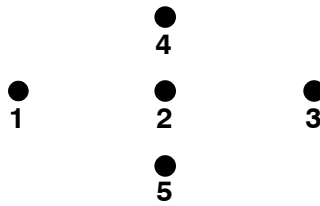
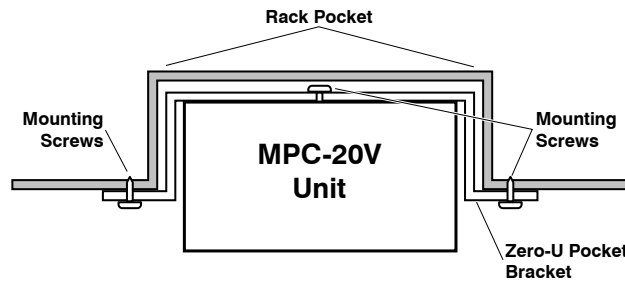

Figure 1: Mounting Holes; MPC-20V Back Panel
Figure 6: Zero-U Pocket Brackets (Cross Section; Nested in Pocket)
- c) **MPC-20V (Vertical) Units:** The "L" brackets can either be attached to the back or side of the unit, and the unit can also be installed to face the front, rear, or either side of the equipment rack. Each end of the MPC features seven screw holes for attaching the brackets, this allows you to mount the brackets on either side of the unit, and in one of two possible positions on the back. When mounting the brackets on the back of the unit, use screw holes 1 and 2 or 2 and 3 as shown in Figure 1. Use two screws (supplied with the bracket) to secure one bracket to the top of the MPC and the second bracket to the bottom of the MPC.
- b) Locate the screw holes for the Mounting Buttons on the MPC-20V back panel. There are two screw holes at the top of the back panel and two holes at the bottom. Note that the screw holes for the Mounting Buttons are not the same holes shown in Figure 1; the Mounting Button screw holes are located at the top of the unit, directly above the screw holes shown in Figure 1, and at the bottom, about three inches below the holes shown in Figure 1.
- b) Each end of the MPC features seven screw holes for attaching the brackets, this allows you to mount the brackets on either side of the unit, and in one of two possible positions on the back. When mounting the brackets on the back of the unit, use screw holes 1 and 2 or 2 and 3 as shown in Figure 1.
The Zero-U Pocket Brackets allow you to mount the MPC-20V in APC® style racks, that include a pocket or channel for zero unit mounting as shown in Figures 6 and 7.
- b) Insert the screws supplied with the bracket into the three holes in the center of the Zero-U Pocket Bracket and then thread them into holes 4, 2 and 5 (see Figure 1) on the back of the MPC-20V unit as shown in Figures 6 and 7.
2. Attaching the Zero-U Pocket Brackets to the Equipment Rack: Align the MPC with the rack pocket and then use appropriate retaining screws to secure the Zero-U Pocket Brackets to the rack pocket as shown in Figures 6 and 7.